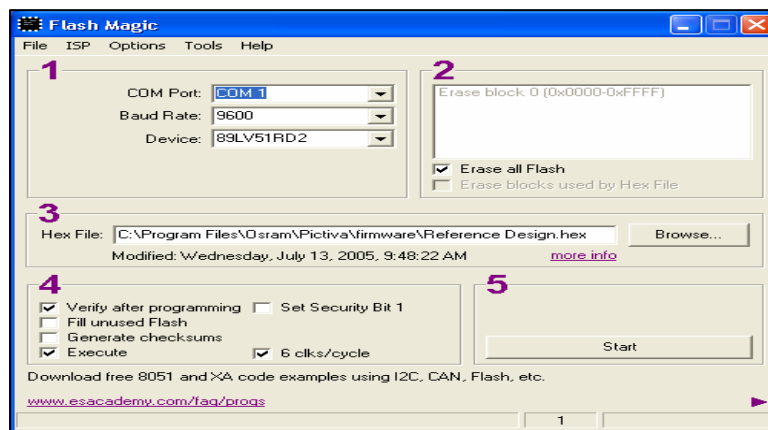

Figure 6
2. The Figure 6 as shown below will be appearing.